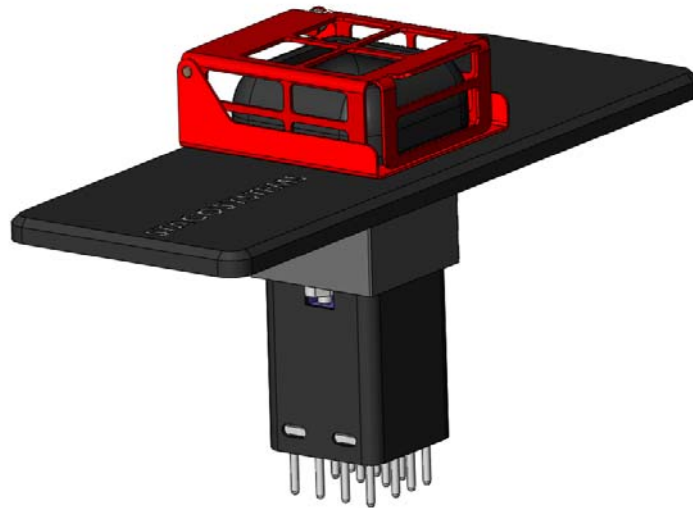
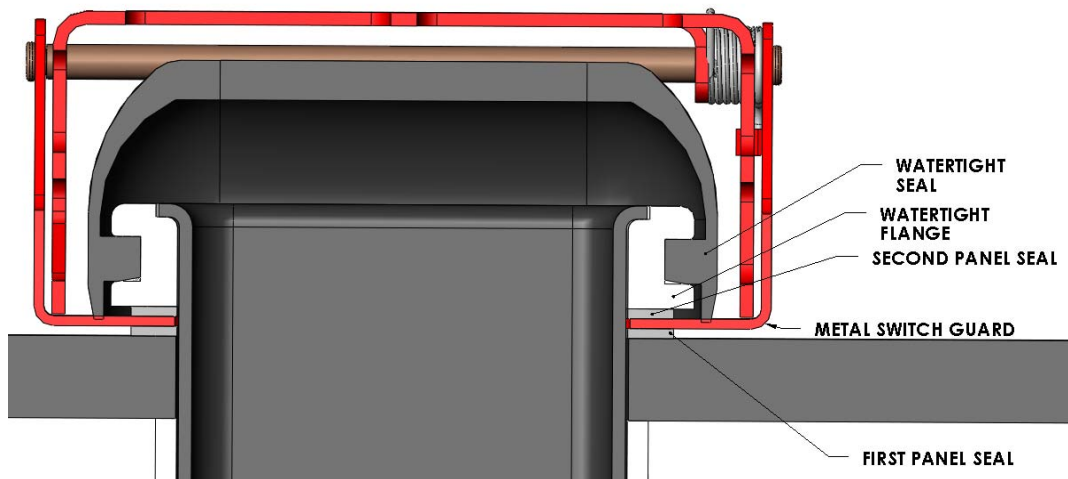

FIGURE 13 – ASSEMBLED UNIT
FIGURE 14 – SECTION VIEW OF WATERTIGHT SEAL INTERFACE
7. REINSTALL PUSHBUTTON BACK ONTO SWITCH ASSEMBLY. SEE FIGURE 13. ENSURE A PROPER FIT OF WATERTIGHT SEAL TO WATERTIGHT FLANGE AS SHOWN IN FIGURE 14.